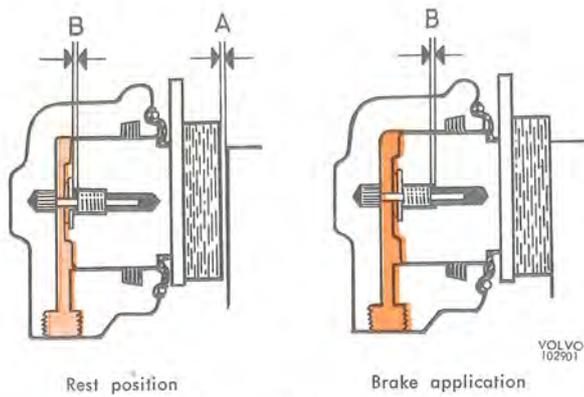
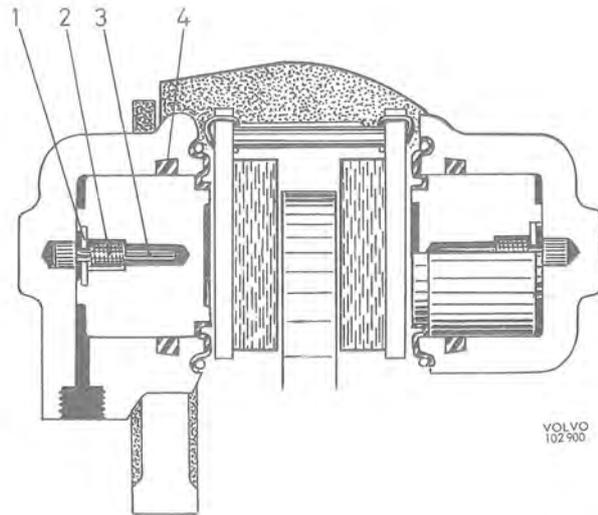

Fig. 5-14. Function of A.S.B. device
Fig. 5-15. Brake caliper with A.S.B. device
When the brake is released, see Fig. 5-14, there is a clearance A between the brake pad and the disc and also a clearance B between the washer and the spring. With brake application, see the figure, the piston (and thus also the brake pad) is pressed against the brake disc and this removes the clearance, A. If distance A is now greater than distance B, this means that the washer (1, Fig. 5-15) is pulling the spring (2) with it in the direction of the brake disc. When the brake pedal is released, the piston is